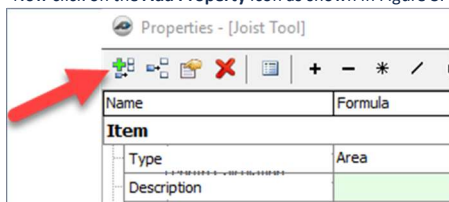

Figure 3
3. Now click on the **Add Property** icon as shown in Figure 3.